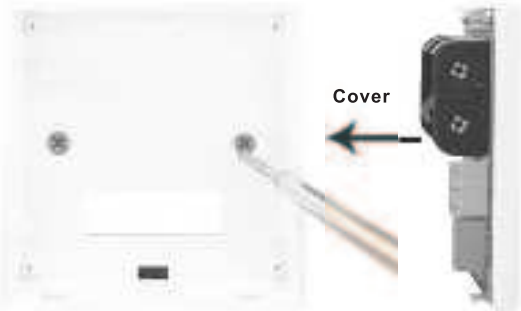

Figure 3
3. See figure 3, fix the bottom shell on the wall, terminal fixed wire, cover the bottom shell with the surface shell.